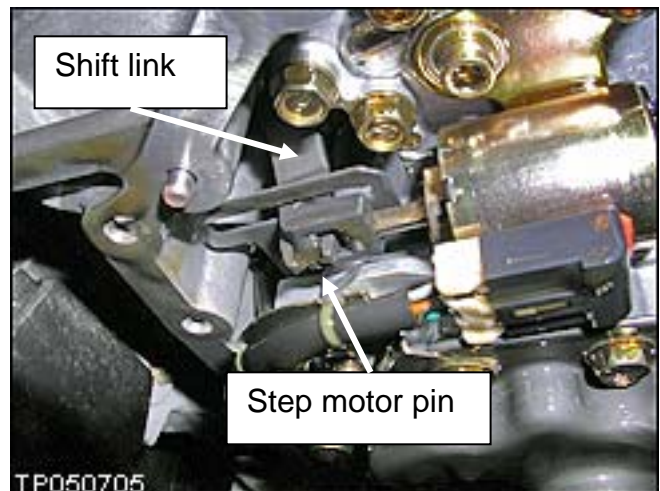

Figure 16
13. While you are doing Step 12 above, the lower end of the shift link must stick through the bottom of the step motor pin as shown in Figure 16.